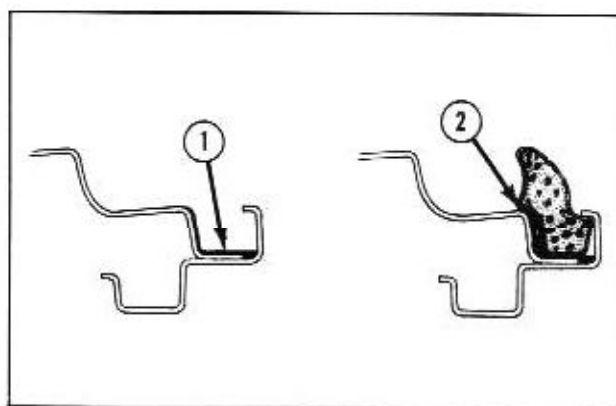

Fig. 15-49 Cross Section View of Rear Compartment Gutter & Weatherstrip
2. Apply (brush) a continuous coat of weatherstrip cement (neoprene type) along the lower and outer surfaces of the rear compartment gutter, as indicated at "1" in Fig. 15-49, around full length of gutter.
5. Using a pressure type applicator, apply weatherstrip cement (neoprene type) between weatherstrip and outer surface of gutter as indicated at "2" in Fig. 15-49, completely around gutter to assure a watertight seal.